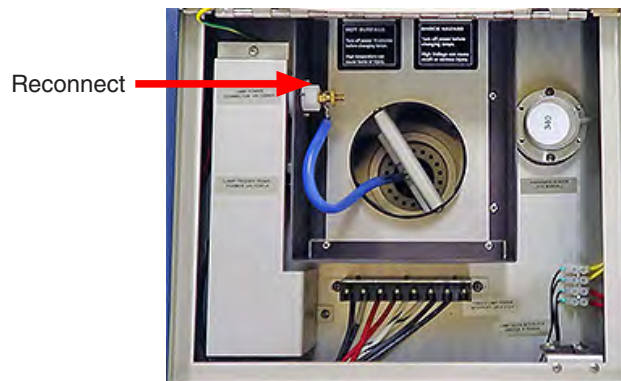

Figure 16.1l: Reconnect the power wire. Tighten the nut.
12. Reconnect the lamp power wire (Figure 16.1l).